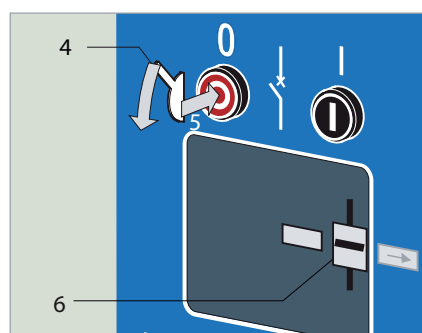

Figure 43
Press the left-hand lever down (Figure 43, 4). To switch OFF, press the red pushbutton (left-hand - 5). The circuit breaker is switched OFF. The position indicator indicates **OFF** (6).